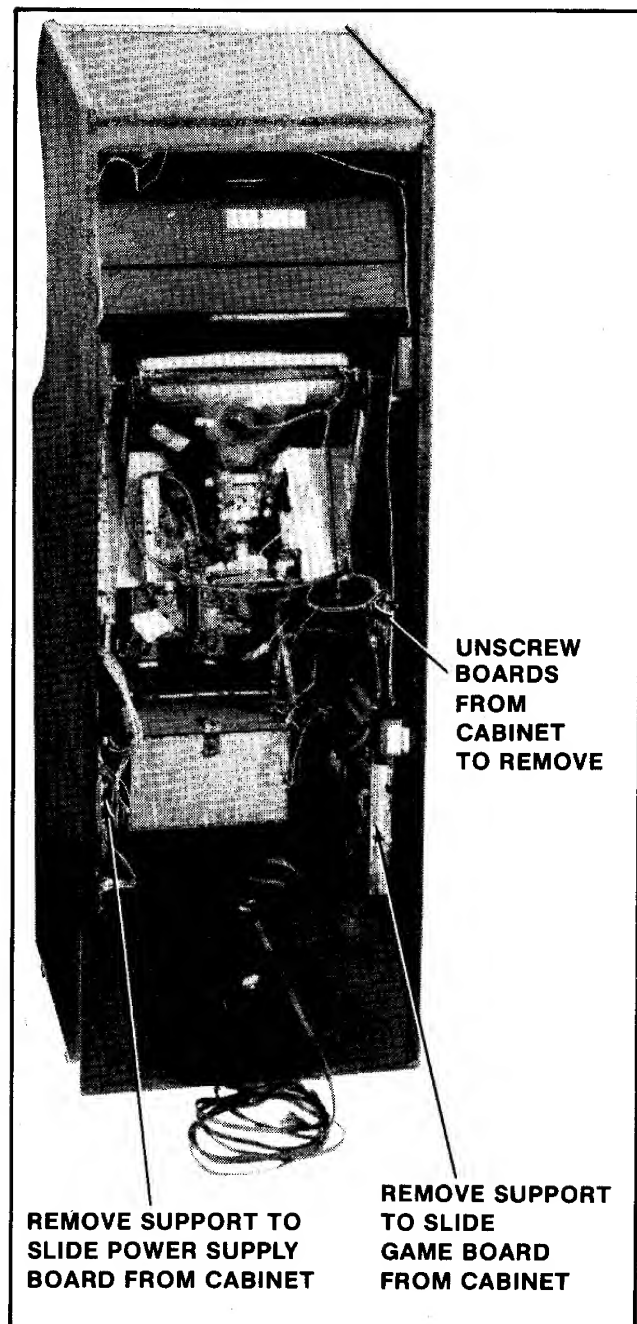

Figure 4-13 Removing P.C.B.s — Mini
2. MINI MODEL: See Figure 4-13.
- ☐ Disconnect the power supply board from its cabling, remove the P.C.B. supports indicated in Figure 4-13, and slide it out the back of the cabinet.